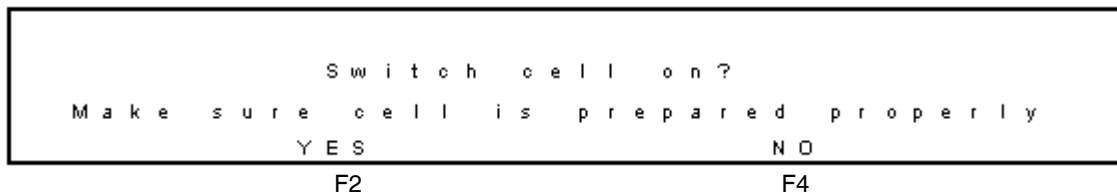

Figure 3-62 Switch Cell On Screen
2. Select **F3 CELL=OFF**. The Switch Cell On screen appears (Figure 3-62).